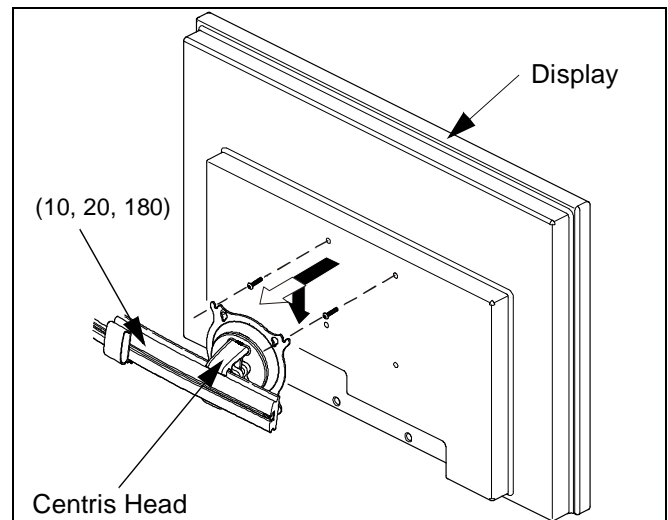

Figure 6: Hang Display
2. Hang display on Centris head. (see Figure 6)